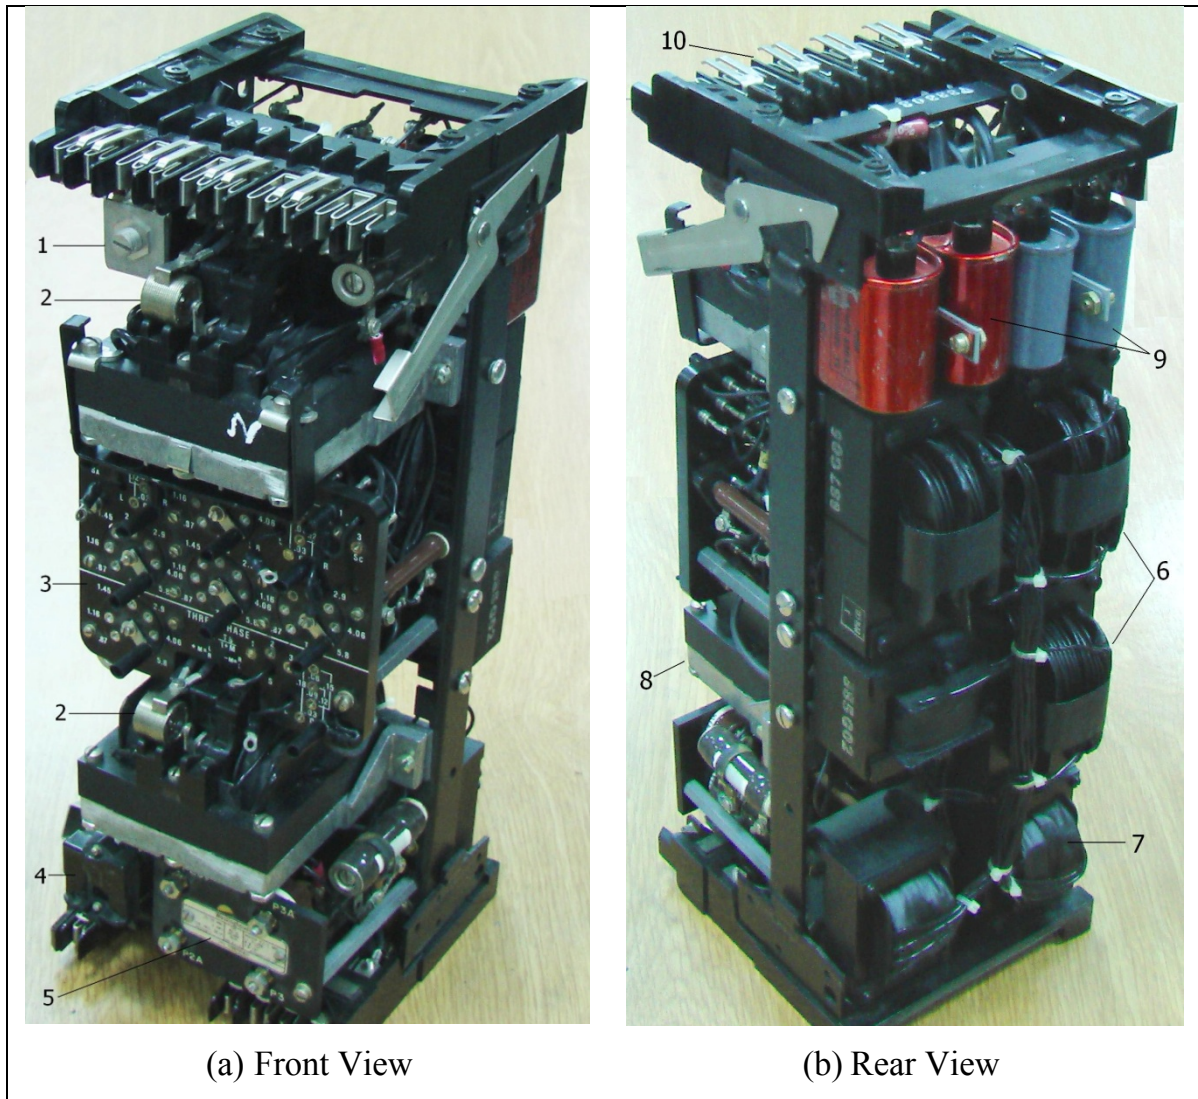

Fig. 2.3-5 Out Of Step Relay Type KS
The blocking relay type (KS) mainly uses induction cup, as shown in Fig. 2.3-5